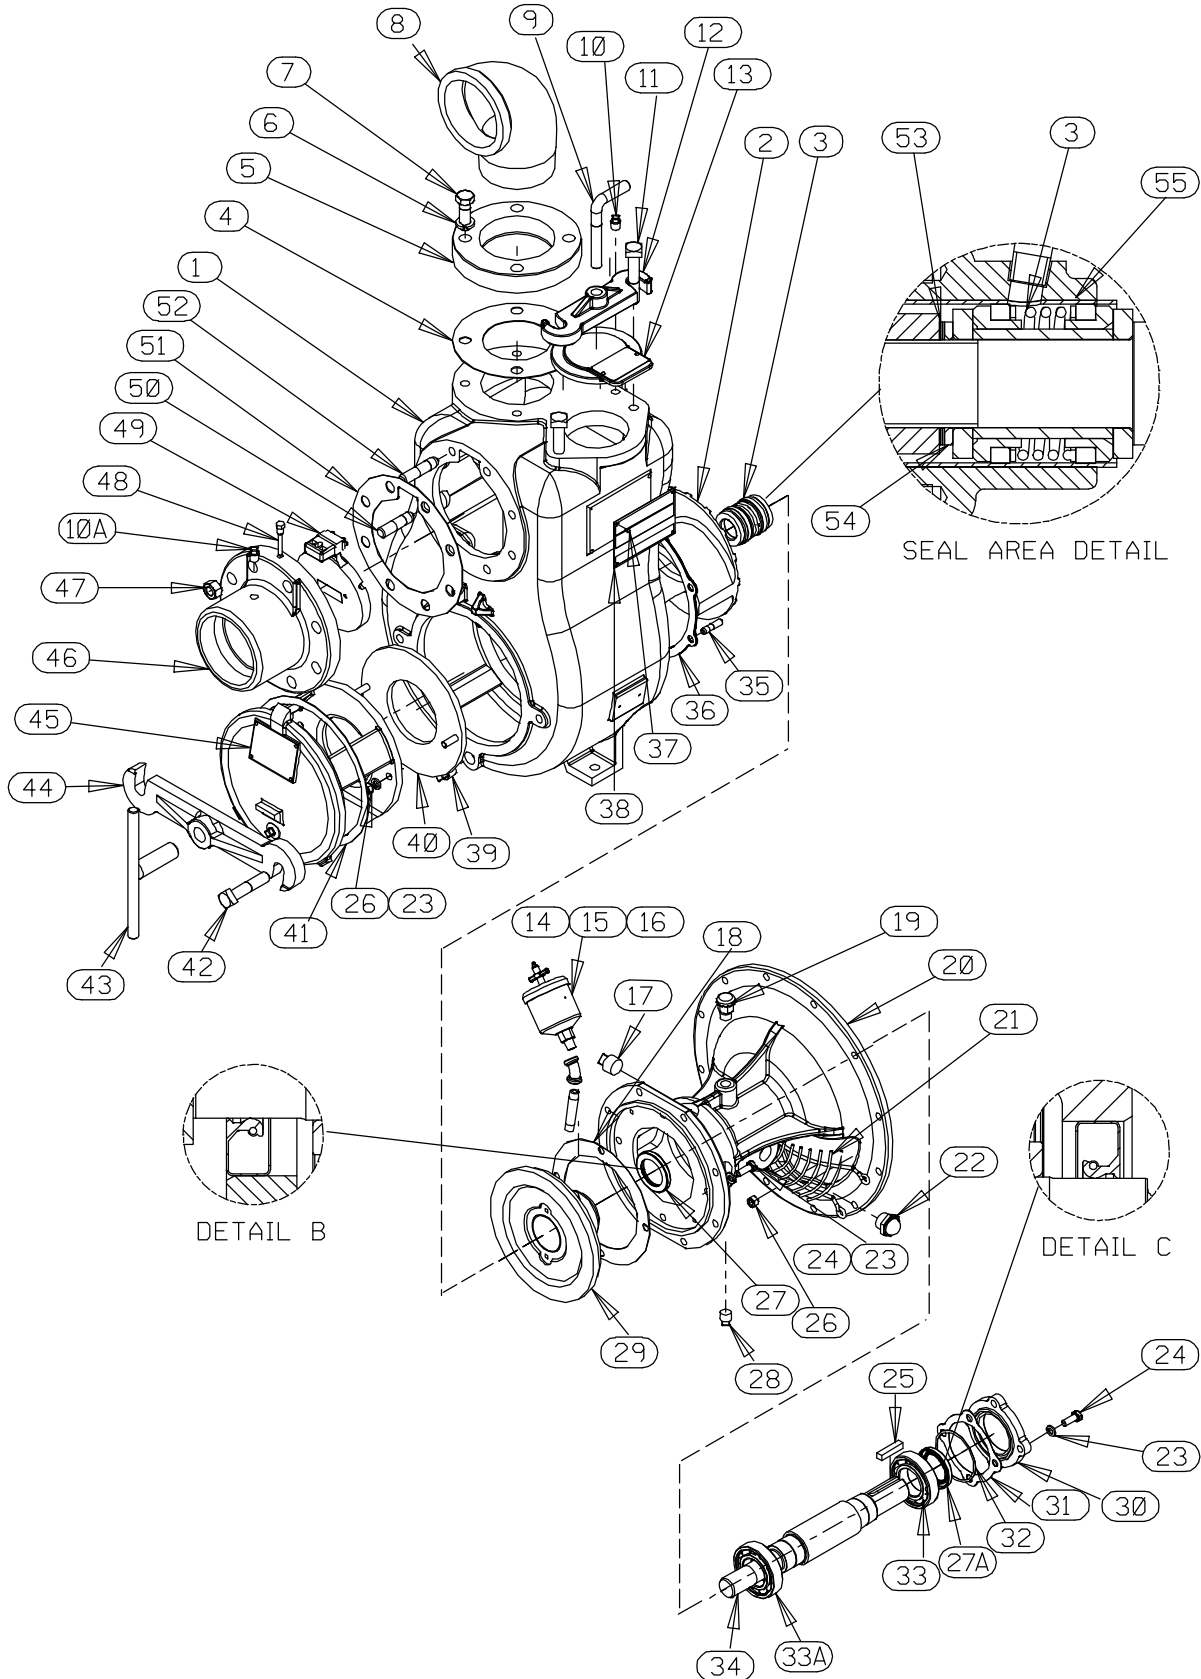

Figure 3. Pump End Assembly
(Figure 3)
Remove the hardware (6 and 7) securing the intermediate to the engine bellhousing. Remove the intermediate guards (21, Figure 3) and separate the assemblies by pulling the pump straight away from the engine.
As the assemblies separate, the flexible portion of the coupling assembly (3) will remain on the shaft. To remove the coupling from the shaft, unscrew the two allen head setscrews from the bushing (2). Screw one of the setscrews into the puller hole on the circumference of the bushing. As the coupling and bushing separate, remove the bushing, and slide the coupling off the shaft. Remove the shaft key (25, Figure 3).